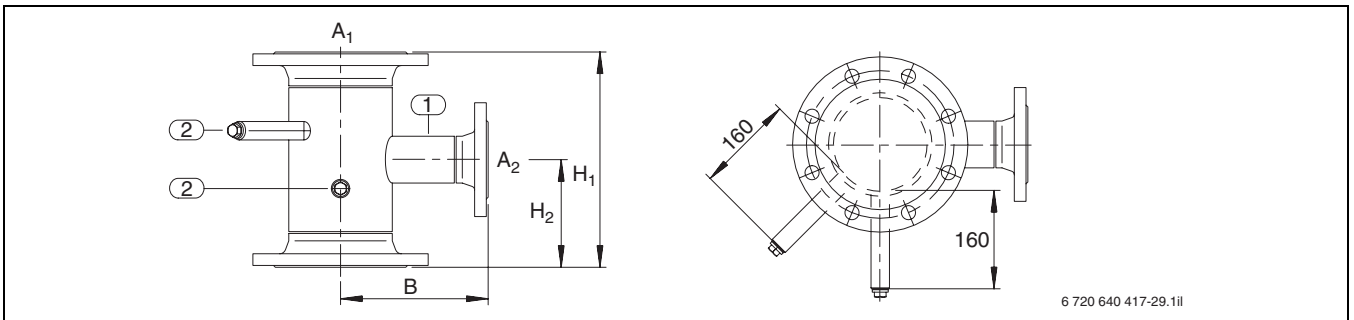

Fig. 71 Intermediate return piece for Logano S825L/L LN and Logano plus SB825L/L LN (dim. in mm)
- The intermediate return piece (→ Fig. 71, page 99) is integrated ready for operation and can therefore not be used in addition.